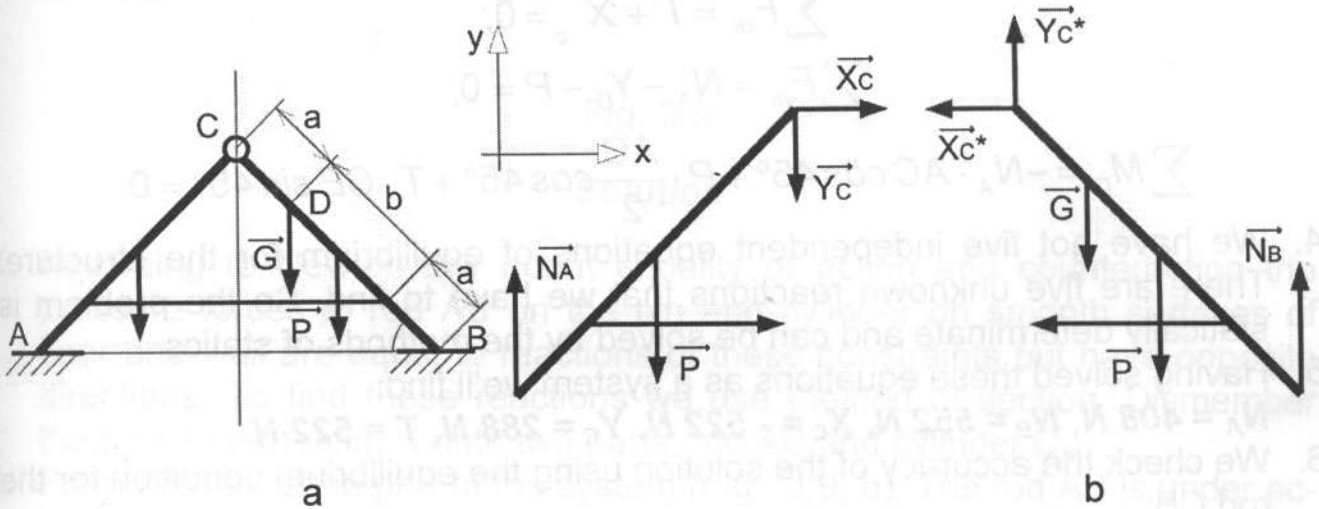

Fig. 3.8
Stepladder is on the smooth horizontal surface. It consists of the parts AC and CB ( $AC=BC=3\text{ m}$ ), has weight  $P=120\text{ N}$  of each part and is joined by pin C and rope EF (EF is parallel to AB). Distances  $AE=BF=c=1\text{ m}$ . Centres of gravity of the parts AC and CB are in their middles. At point D on a distance  $a=0,6\text{ m}$  a man with weight  $G=720\text{ kg}$  stands. Parts of the stepladder are connected with inextensible cord (Fig. 3.8, a).
- Form FBD for each part of the system (Fig. 3.8, b). The rod AC is under action of weight  $P$ , reaction  $\vec{N}_A$  that is caused by horizontal surface, tensile load  $T$  and reactions  $\vec{X}_C, \vec{Y}_C$  that are caused by pin joint at the point C. The rod CB is under action of weight  $P$ , applied force  $G$  as weight of a man, reaction  $\vec{N}_B$  that is caused by horizontal surface, tensile load  $T$  and reactions  $\vec{X}'_C, \vec{Y}'_C$  of interaction with separated part AC. Here we note that  $\vec{X}_C = -\vec{X}'_C, \vec{Y}_C = -\vec{Y}'_C$ .